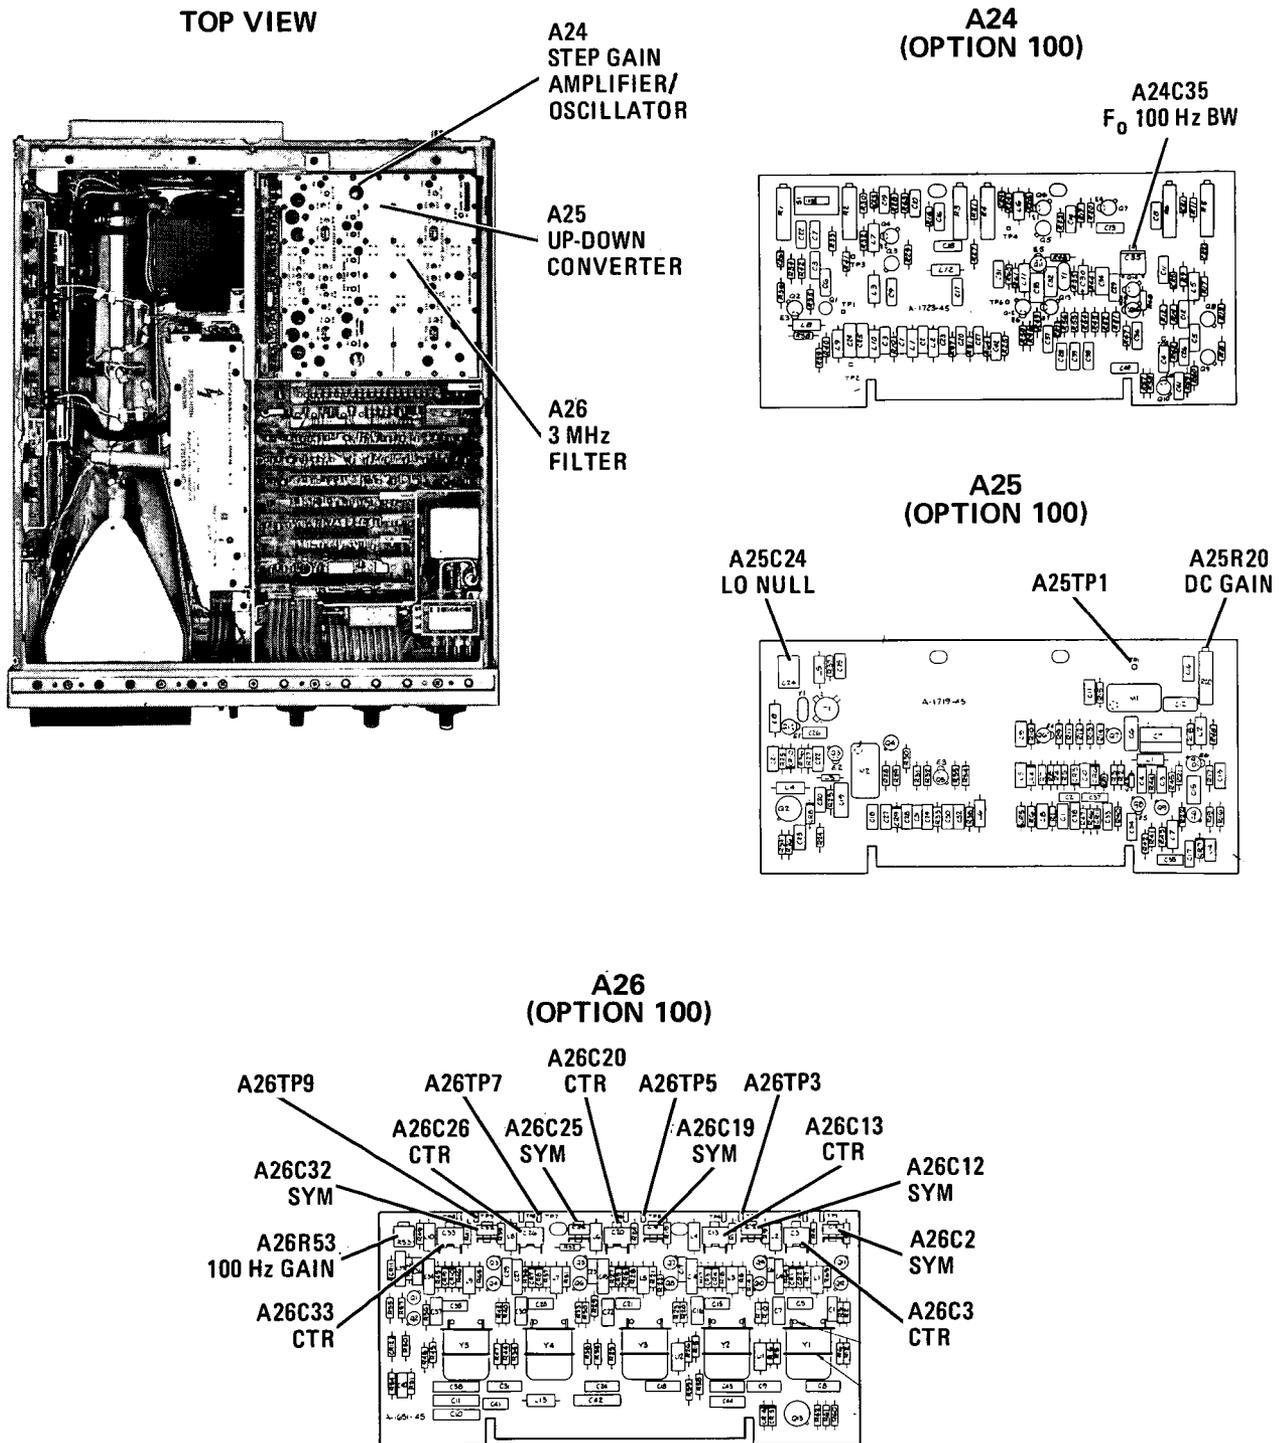

Figure 5-63. Option 100 Bandwidth Filter Adjustment Locations
- e. Connect oscilloscope probe to A26TP3 (Figure 5-63) and set RESOLUTION BW switch to 1 kHz.